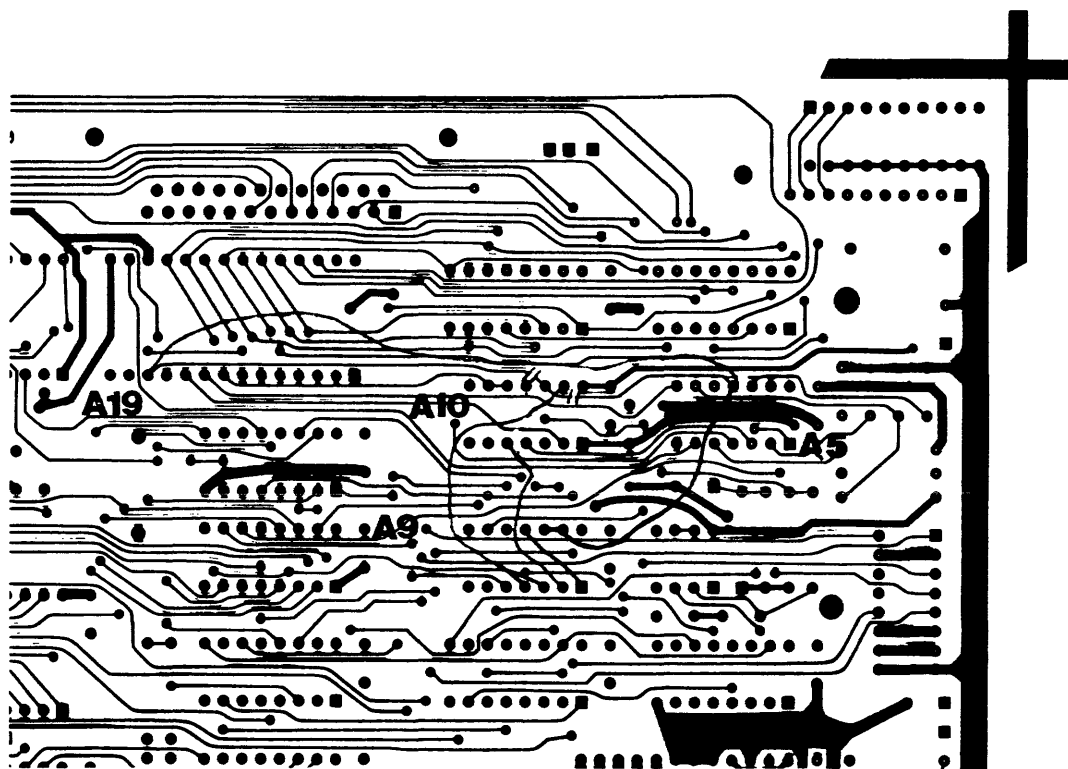

Figure 9-1 Cuts and Jumpers on Solder Side of Logic Board
1. On the solder side of the logic board, cut both of the traces to pin 12 of the IC (located at A10 as shown in Figure 9-1).
Refer to Figure 9-1.